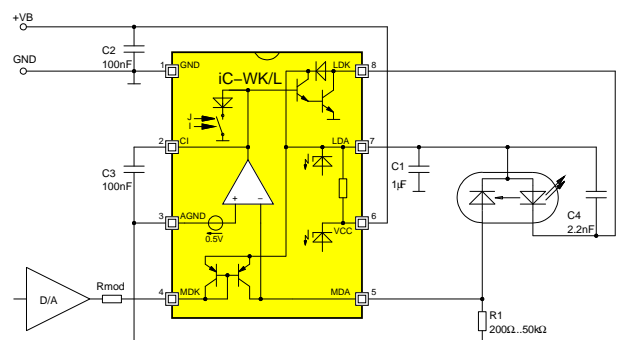

Figure 4: Using the second monitor diode input for analog modulation (N-type laser)
In Figure 4 the internal current mirror for P-type laser diodes is used for analog modulation. Thus the laser power can be dimmed by drawing current from pin MDK. For this task a controlled current source is best
**Caution!** In contrast to the circuit given in Figure 4, a laser power increase is possible.